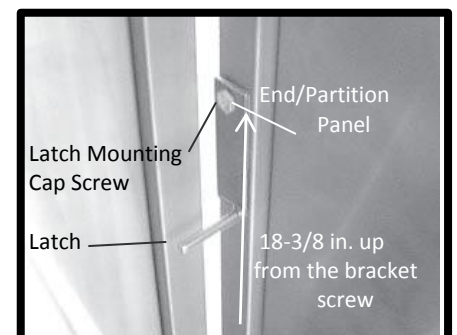

Figure 52: Mounting the resting shelf latch
1. Drill a 5/16 in. hole in the inside surface of the rear vertical frame of the end or partition panel about 18-3/8 in. up from the center of the panel bracket screw (Figure 52).